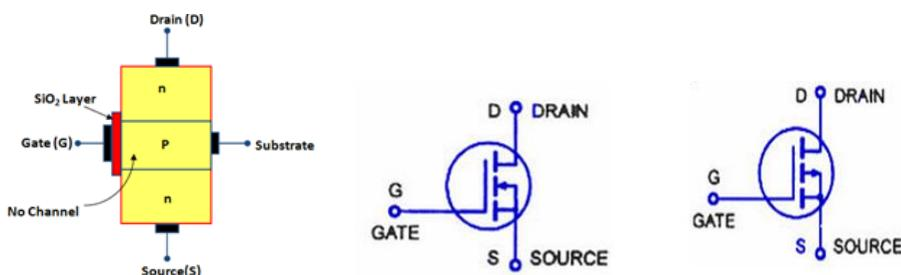

Fig. 9.20 (a) Construction
The E-MOSFET can be operated only in enhancement mode. Fig. 9.20(a) shows the basic structure of an n-channel E-MOSFET. A thin layer of metal oxide, usually silicon dioxide (SiO_2) is deposited over a small portion of the channel. A metallic gate is deposited over the oxide layer. As SiO_2 is an insulator, therefore, gate is insulated from the channel. The E-MOSFET has no channel between source and drain. The substrate is connected to the source internally so that a MOSFET has three terminals such as Source (S), Gate (G) and Drain(D).